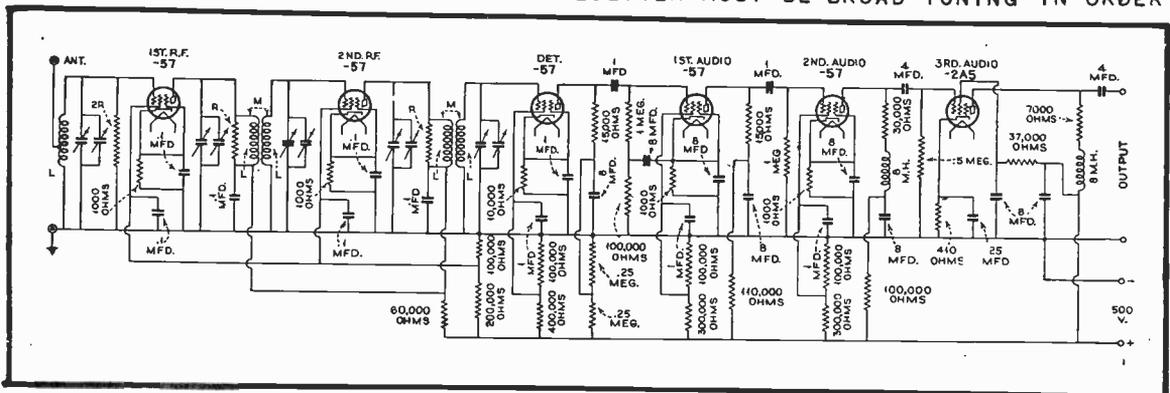

FIG. 7
ALSO NOTICE IN THE CIRCUIT OF FIG.7 THAT NO R.F. FILTER IS USED IN THE OUTPUT OF THE DETECTOR. THIS HAS BEEN PURPOSELY OMITTED SO THAT THERE WILL BE NO POSSIBILITY OF BY-PASSING ANY OF THE HIGHER AUDIO FREQUENCIES TO GROUND AND THEREBY REDUCE THE CLARITY OF THE PICTURE.
8. - WHAT IS THE REASON FOR USING THE RESISTOR R IN THE CIRCUIT OF FIG.7 IN THIS LESSON?